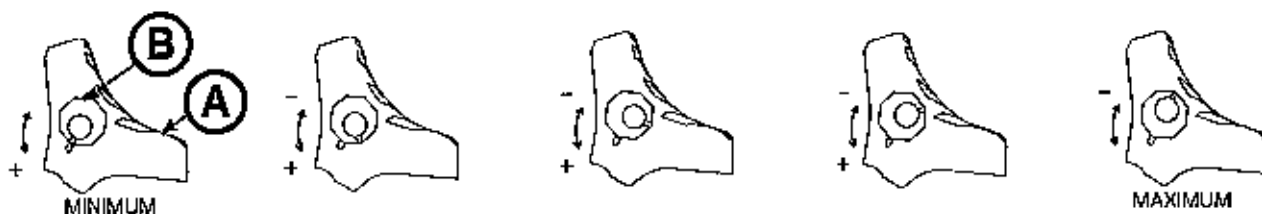

Figure 103
1. Using the 5/32" hex wrench and 7/16" combination wrench or socket, remove the socket screw from the center of the lock pedal. The wheel lock is initially assembled with the pedal set at the minimum locking force. The marker on the pedal (A) is aligned with the marker on the octagonal sleeve (B) (Figure 103).
2. Remove the sleeve (B). Rotate the sleeve counterclockwise to increase the pedal locking force and clockwise to decrease the locking force. Insert the sleeve into the pedal (Figure 103).